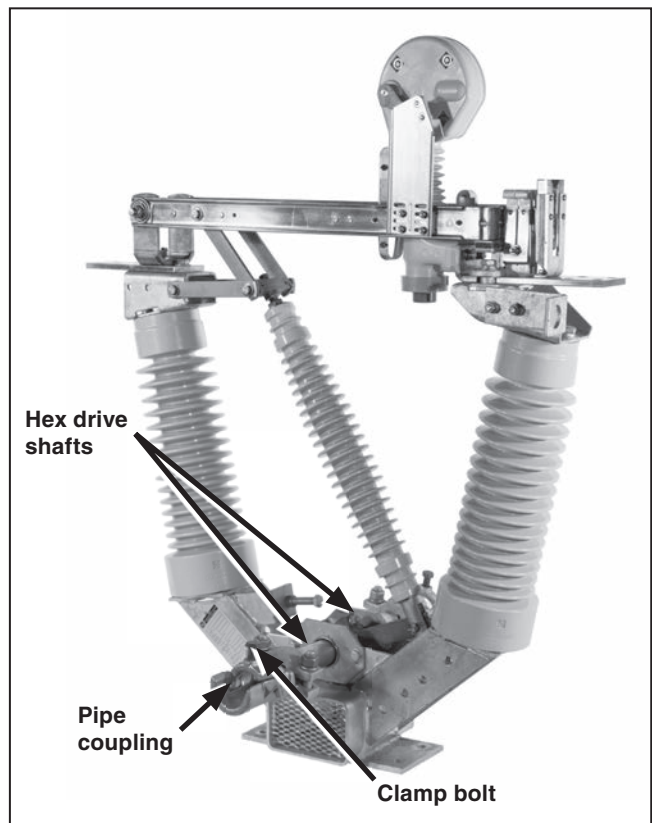

Figure 3. Attaching the pipe couplings to the switch hex-crimped galvanized steel pipe operating shafts.
STEP 2. Attach the pipe couplings to the hex-crimped, galvanized-steel pipe operating shaft of each switch pole. Torque the clamp bolts to final tightness. See Figure 3.